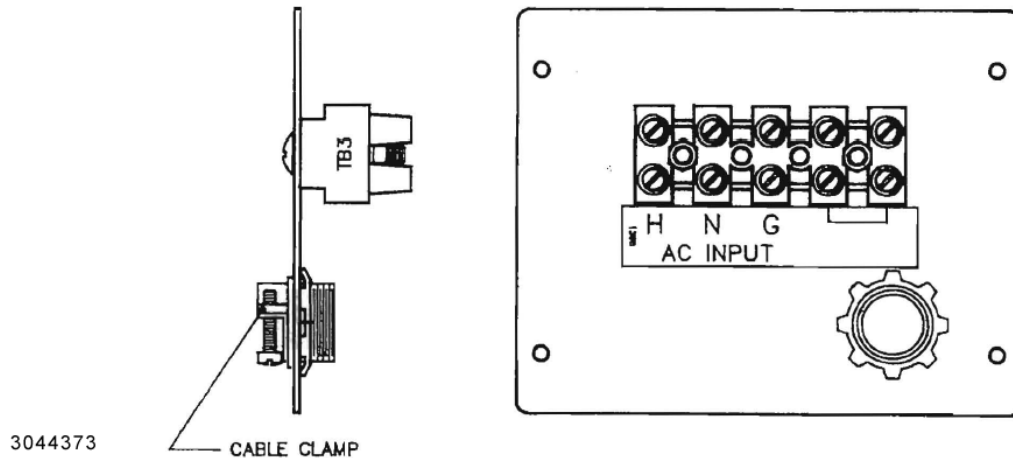

FIGURE 2-4. AC INPUT POWER TERMINAL BLOCK, TB3
- b. Insert the AC power line through the hole in the panel; tighten the cable clamp and connect the line, neutral and ground wires to their respective terminals on the Terminal Block (see Figure 2-4).